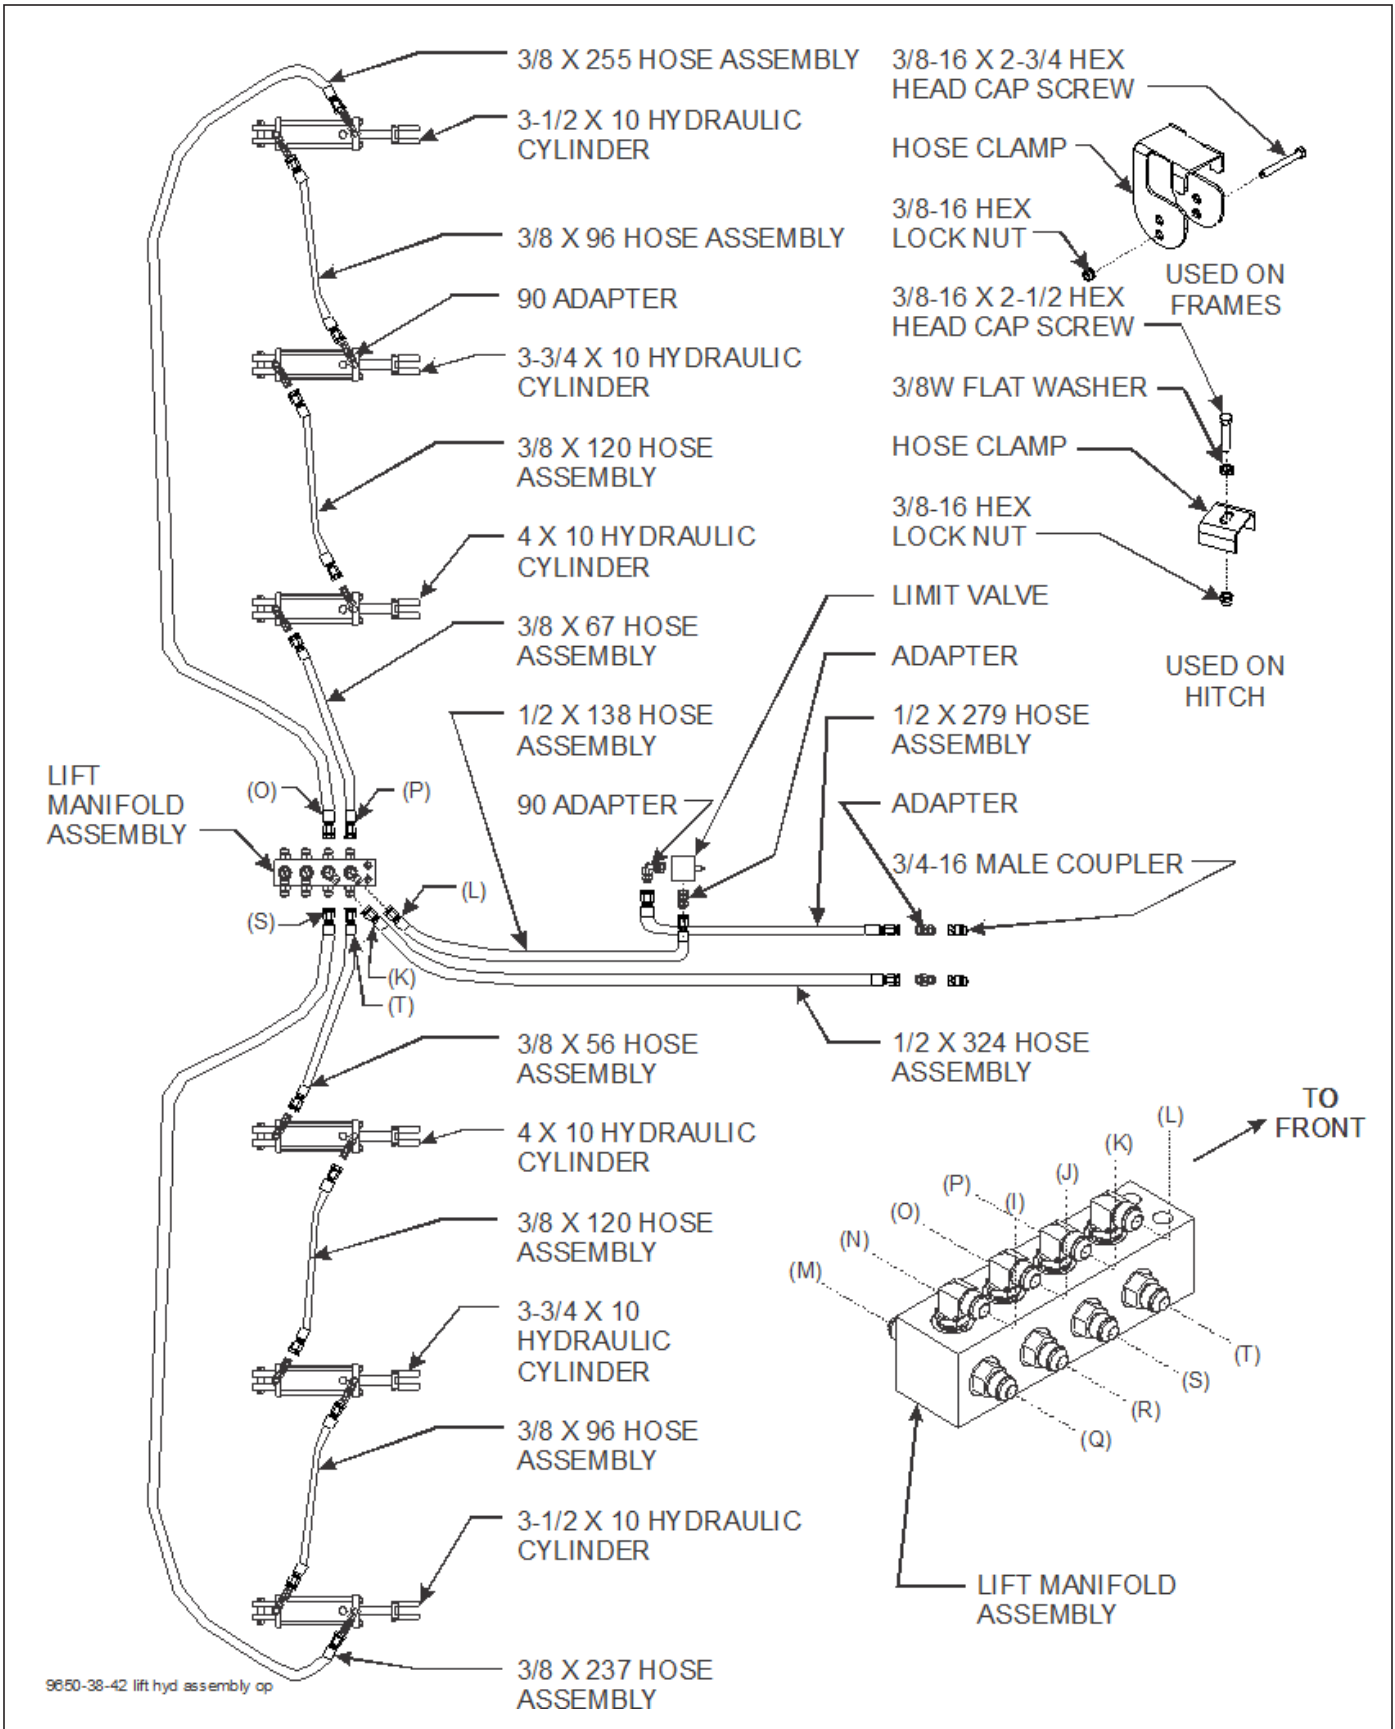

Figure 3-11: Hydraulic Lift Installation (9650-38 & 9650-42)
See Figures 3-11 through 3-14 for hydraulic cylinder fittings (factory installed and those installed during setup.)
Refer to Figures 3-11 and 3-12 for lift and fold hydraulic diagrams for 9650-38 and 9650-42 models.
13. Install lift system hoses per **Figure 3-11 (9650-38 and 9650-42) or Figure 3-13 (9650-46 and 9650-50.)** Wrap lift system hoses with blue hose wrap.